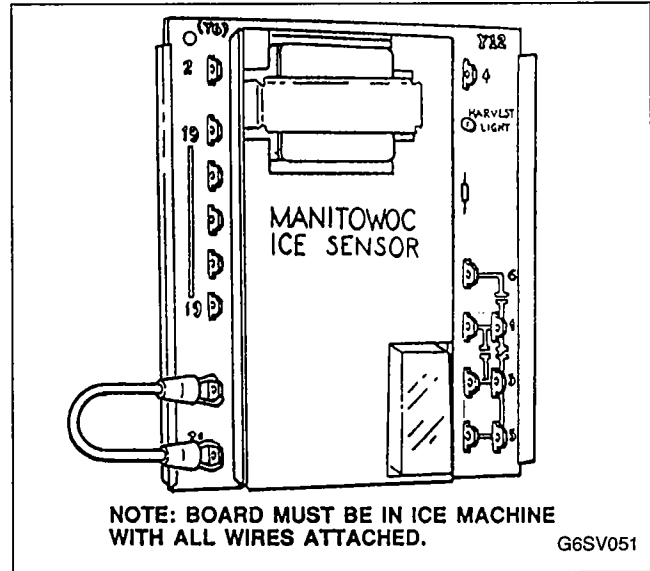

FIGURE 53. UNITIZED SENSOR BOARD
Step 4: Disconnect wires from terminals 20 and 21 on board. Connect jumper wire to terminals 20 and 21, Figure 53.